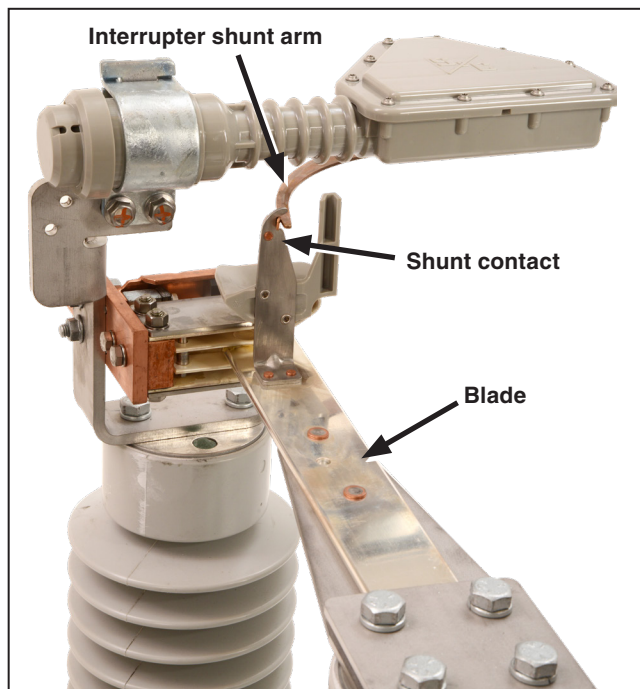

Figure 33. The shunt contacts should engage each interrupter shunt arm on the copper-bronze contact surface of each shunt contact.
- As the blade moves toward the open position, the operating cam shunt contacts should engage the interrupter shunt arms on the copper-bronze contact surfaces of each shunt contact. See Figure 33.